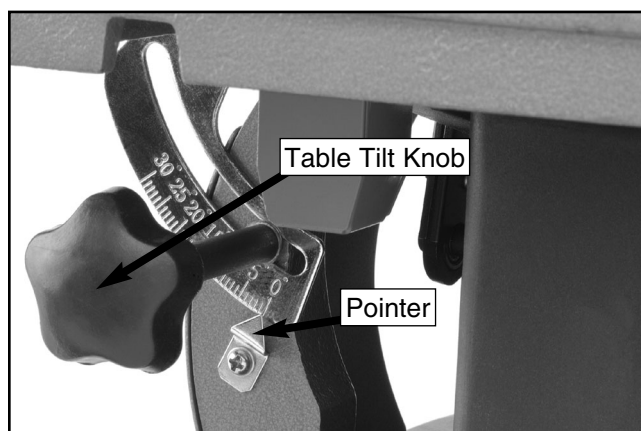

Figure 18. Pointer and table tilt knob.
2. Loosen the table tilt knob shown in **Figure 18**.
5. Tighten the table tilt knob, loosen the pointer shown in **Figure 18** and adjust it to 0°.